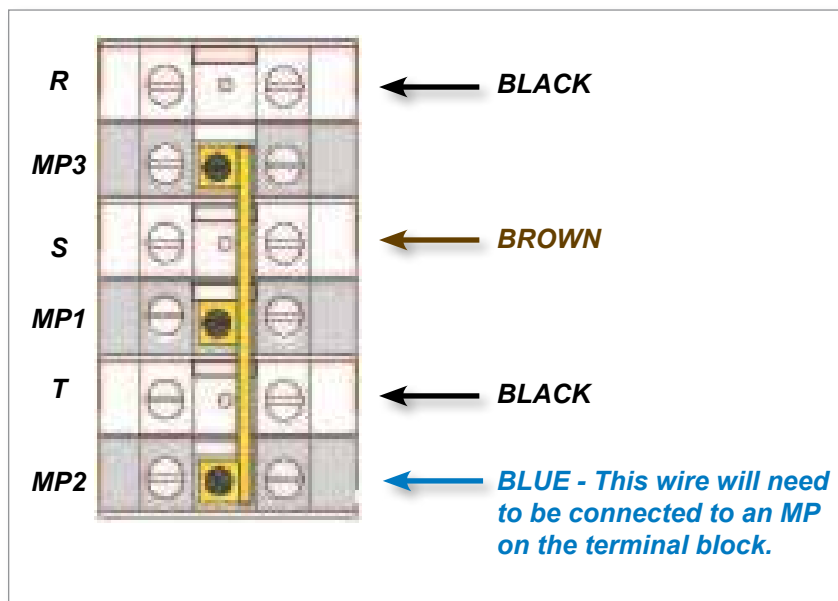

Figure 9-1 Connect the neutral - position shown by blue arrow
1. Connect the neutral (indicated by the blue conductor) into the lower-right terminal. Refer to Figure 9-1.